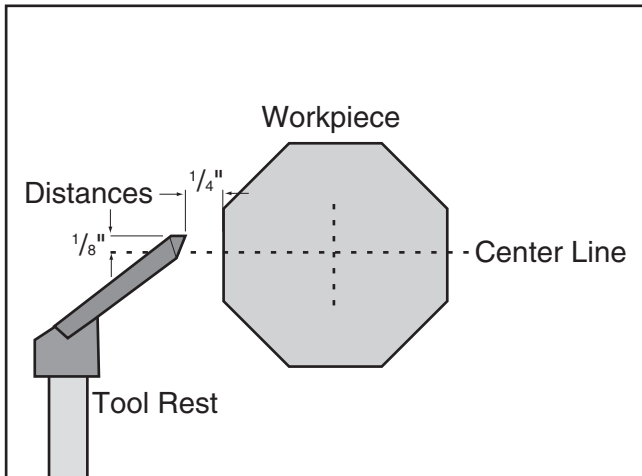

Figure 26. Tool rest set $\frac{1}{8}$ " above the center line and $\frac{1}{4}$ " away from workpiece.
3. Use the tool rest lock to adjust the tool rest height as needed. **Figure 26** on **Page 22** shows how to find the proper tool rest height.
- Position the tool rest approximately $\frac{1}{4}$ " away from the workpiece and approximately $\frac{1}{8}$ " above the center line, as shown in **Figure 26**.